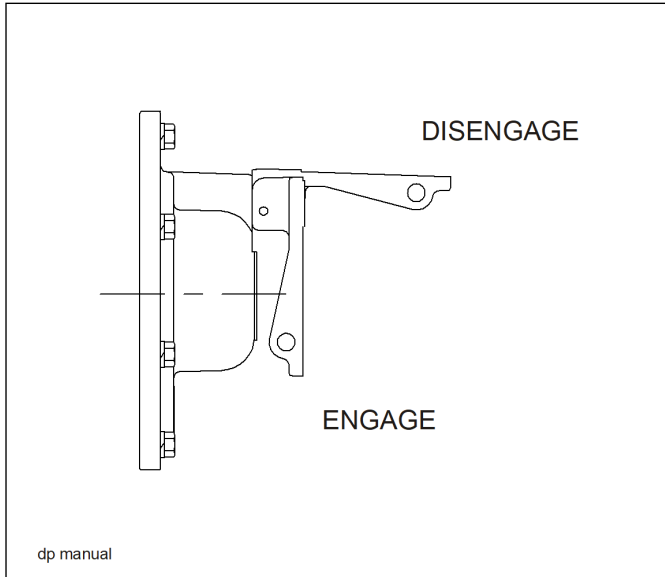

Figure 3-7: Manual Lever Kickout
1. The manual freespool clutch is operated by pulling lever kickout (See Figure 3-7.)